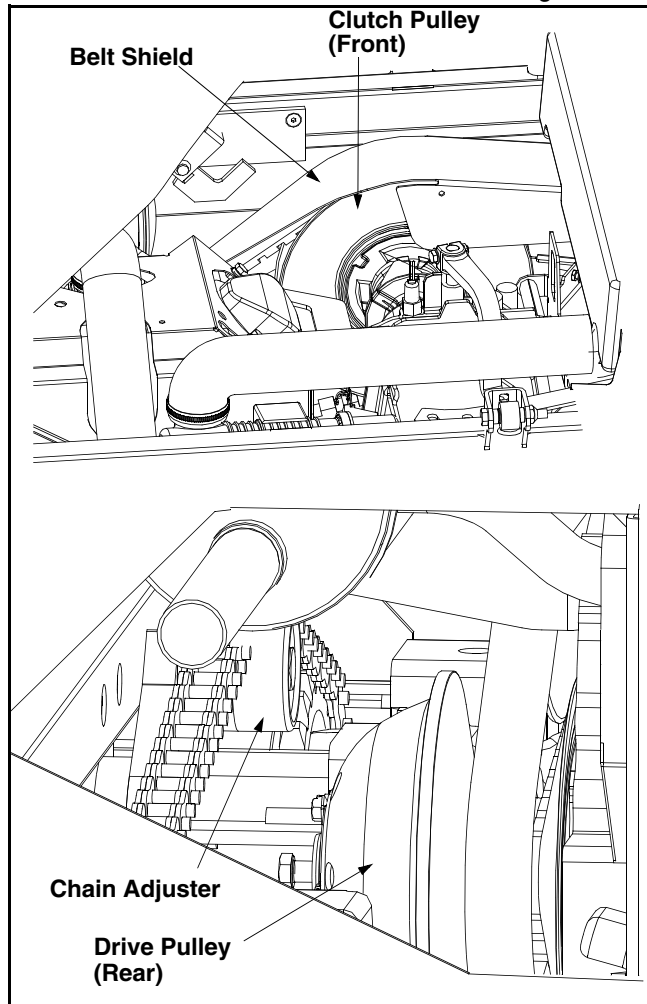

Figure 19
- Remove hardware and belt shield. See Figure 19.
- Route belt from drive pulley (rear pulley). See Figure 19.